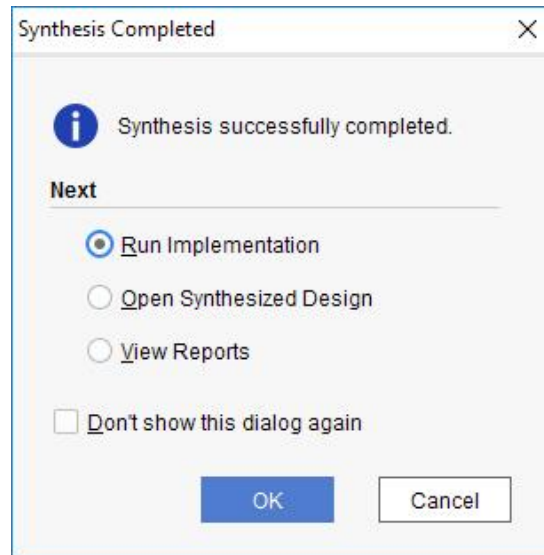

Figure 18
4. In the end, a new window opens stating that the synthesis was successfully completed and showing the next steps (Figure 18). This type of windows appears after completing each one of the implementation steps. We may disable these windows by checking **Don't show this dialog again**. Notice that the options we see in the window are always available in the **Flow Navigator** window